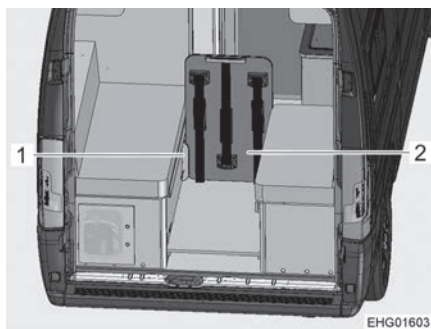

Fig. 51 Folding table, secured in mounting rails
- Insert the folding table (Fig. 51,2) into the mounting rails (Fig. 51,1). The mounting rails are attached to the benches. In this position, the folding table serves as a cargo area partition.